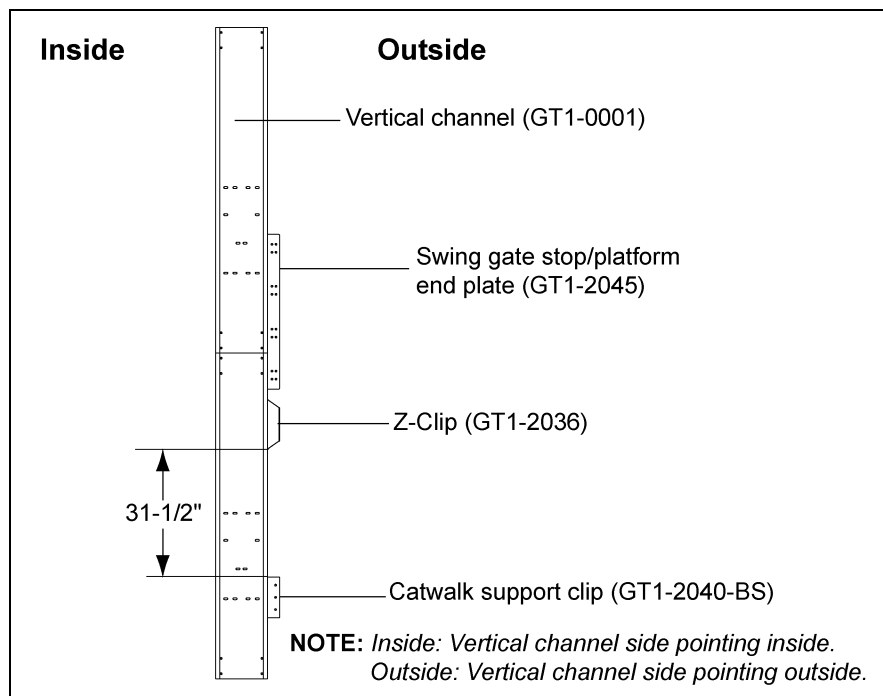
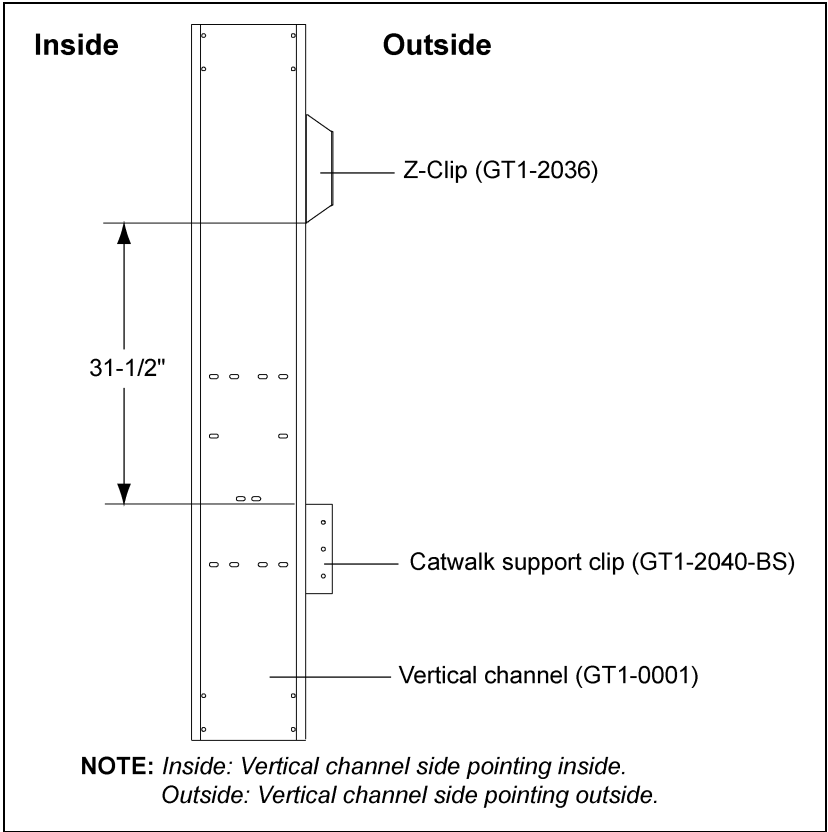

Figure 6H
Figure 6J
2. The distance between the Z-clip and support clip for 24' offset and roof hatch platform is 31-1/2". *(See Figure 6H below and Figure 6J on Page 50.)*